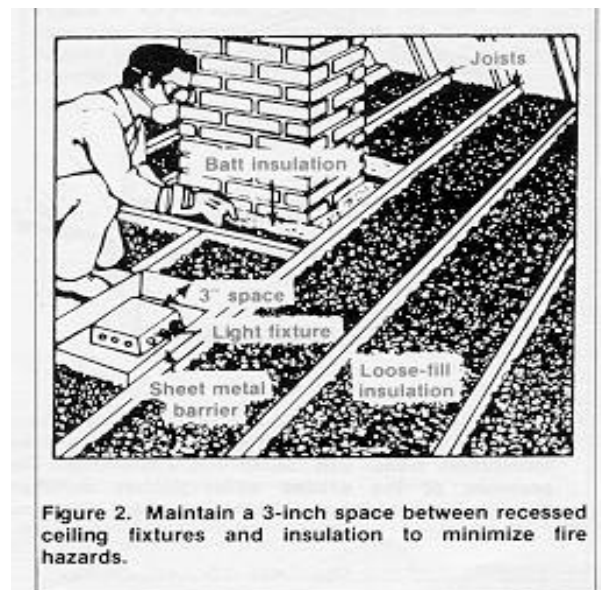

Figure 2. Maintain a 3-inch space between recessed ceiling fixtures and insulation to minimize fire hazards.
- ~ Check to see that insulation remains at least 3 inches away from all recessed ceiling lights (fall). Covering recessed ceiling lights with insulation results in heat build-up which can cause fires (see Figure 2).